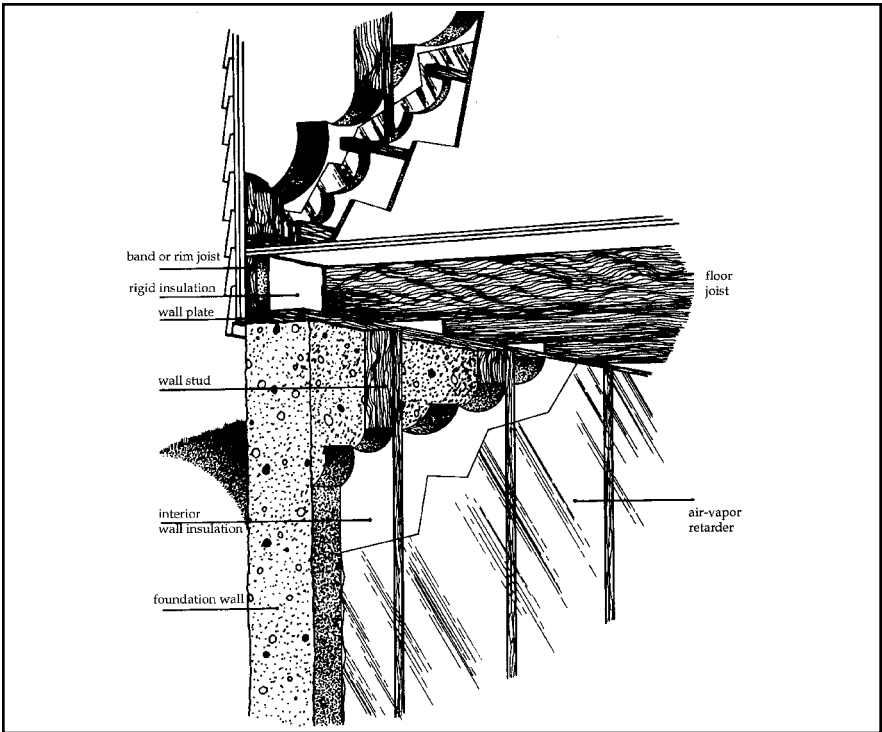

Figure 2
- **The rim joist** where the exterior framing meets the floor joists is a critical area to insulate and air seal, and it is often a major source of heat loss. One way to handle the problem is to first seal the rim joist against air leaks and then insert pieces of rigid insulation between the joists, covering them with sheet rock to meet fire protection standards (See Figure 2). The rim joist can also be insulated on the exterior. Discuss this with your builder.